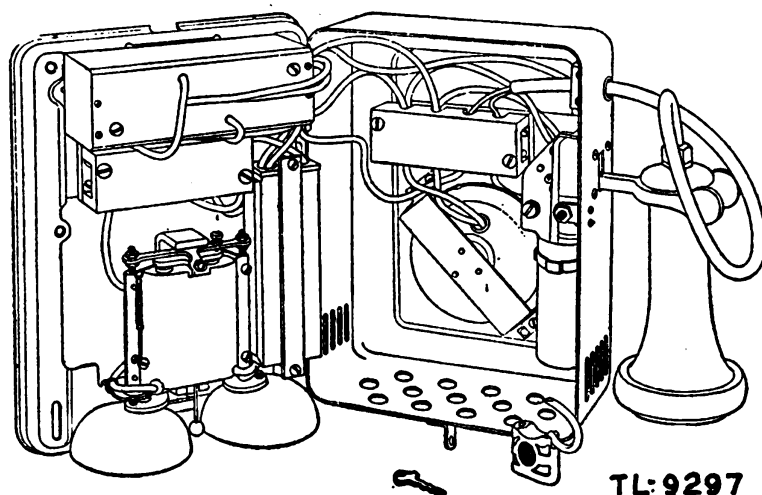

Figure 107. Explosion-proof telephone.
(2) The explosion-proof telephone shown in figure 107 consists of a metal chamber which incloses the hook switch assembly and which is sealed with lead to prevent an explosion caused by sparks from the hook switch. The induction coil is sealed in a wooden case, and the ringer coils are shielded with metal to protect the winding against injuries which might become a source of spark. The terminal blocks are equipped with wooden covers to guard against accidental crosses. The cord and wiring of the telephone set are provided with closed cord tips to minimize the possibility of loose connections; as a further precaution, lockwashers secure the cord and wiring. A lock is provided to prevent an unauthorized person from opening the telephone set.